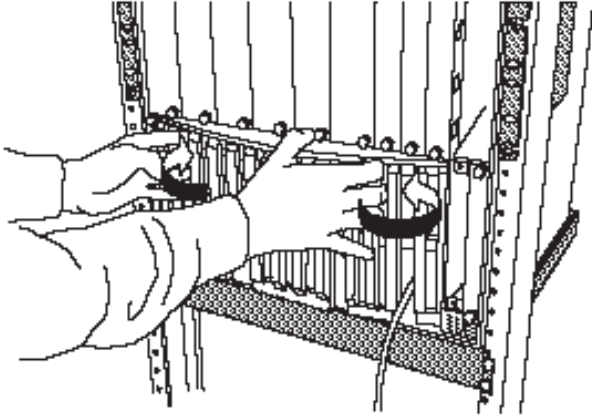

Figure 4-2. Power Supply Bay Grille Installation
- 1** If installed, remove the power supply bay grille to gain access to the power supply bay (see Figure 4-2 on page 4-4).
- 2** Set the defective power supply's ON/OFF switch (I / O) located on the front of the supply to the OFF (O) position.
- 7** Remove the replacement power supply from its shipping box and set the power supply's ON/OFF (I / O) switch to the OFF (O) position.
See Figure 4-2 on page 4-4.